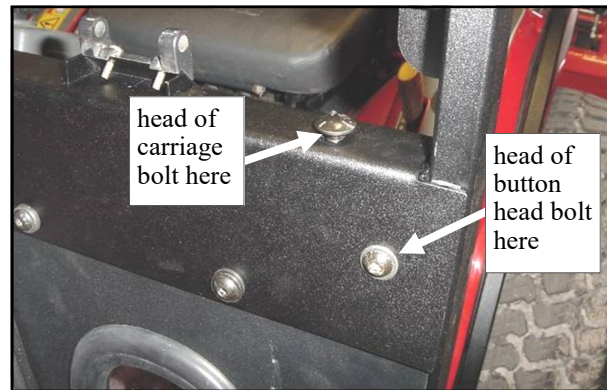

Fig. 4.4 (view from front left side of tractor)
4.4 Per fig. 4.4, install this cowl assembly over the hood of the tractor so the two 90 degree bends on the cowl are inside the side frame tubes. Use the following hardware per side: one 5/16" x 1" long carriage bolt, one steel washer, and one locknut in the square hole in the top flange of the cowl. One 5/16" x 1" long button head bolt, one plastic washer, two steel washers, and one locknut in the slotted hole in the front of the cowl. Do not tighten the bolts.